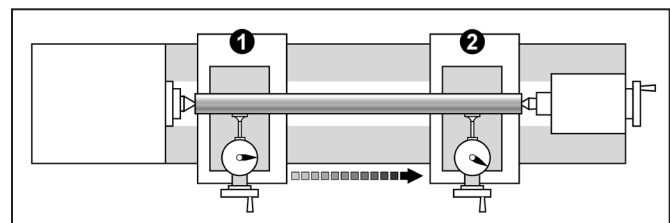

Figure 4-14 Drill rod between misaligned centers
5. Set the drill rod snugly between centers, as Figure 4-14. Lock the tailstock.
7. Starting at location (1), note which way the pointer rotates when the cross-slide is moved inward. (In this diagram the pointer is shown turning clockwise.)
8. Pre-load the indicator by a few thousandths, then traverse the saddle from (1) to (2).